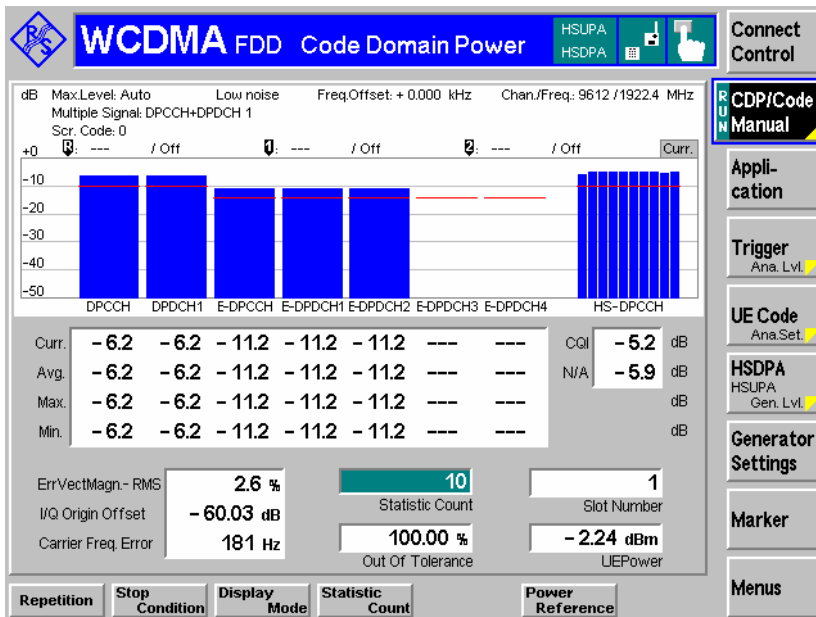

Fig. 8-40 UL HSUPA channels in CDP
- To obtain the results shown in Fig. 8-40 above configure the R&S CMU as follows: